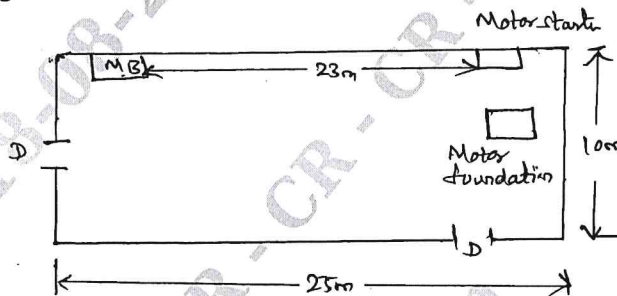

Fig.Q6(b) Plan of workshop
- b. A 15 HP, 415 V, 3 ϕ , 50 Hz induction motor is to be installed in a workshop, the plan of which is shown in Fig.Q6(b). Draw the layout of the wiring and estimate the materials required. The wiring is to be surface conduit. Assume motor efficiency as 85% and power factor as 0.8 lagging.